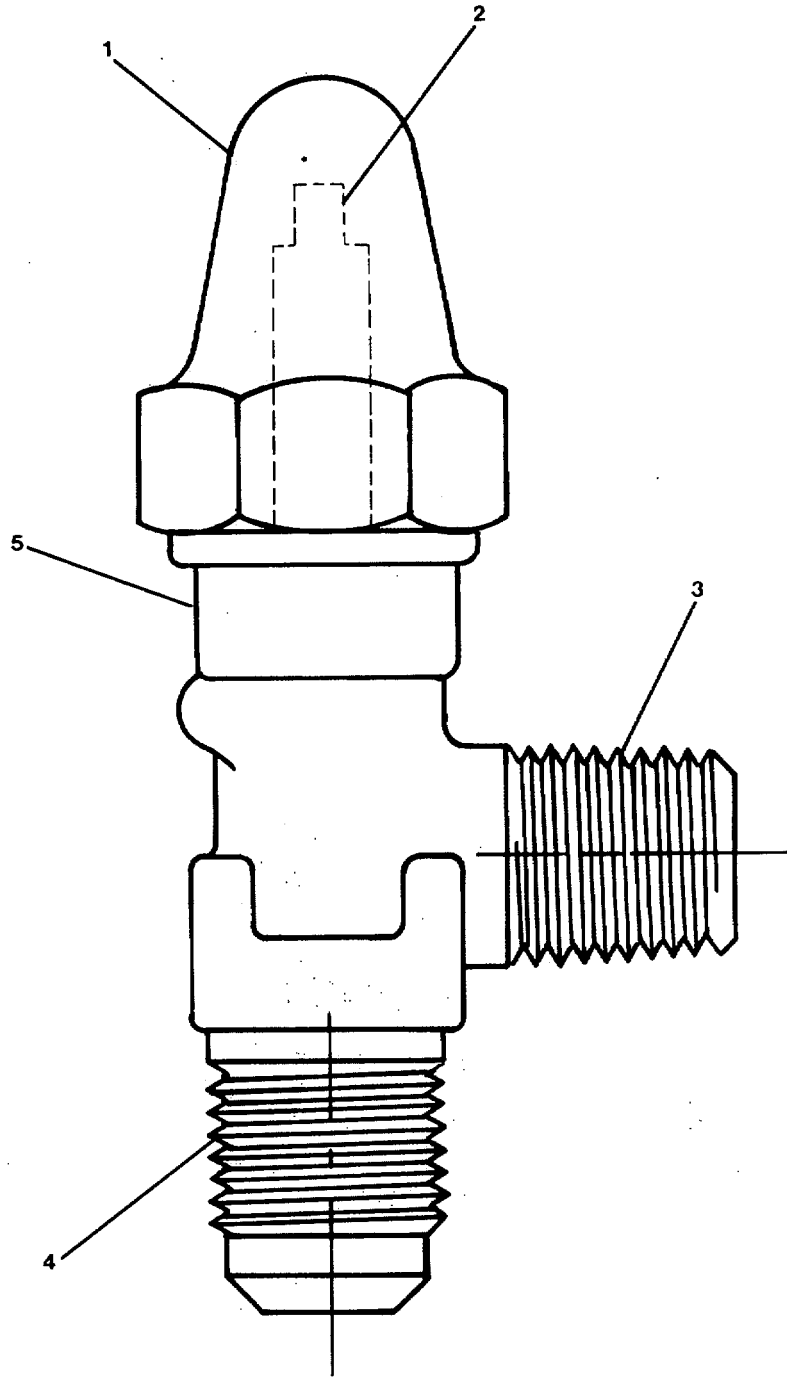

Figure 4-9. Angle Valve.
- (2) Replace ball valves.
- (a) Position new refrigeration ball valve (1) or (5) in refrigerant line.
- (b) Braze new ball valve (1) at connections (3) and (4).
- (c) Braze new ball valve (5) at connections (8) and (9).--
- (3) Make sure all ball valves are in OPEN position.
- (a) Turn visual indicator stem (2) on ball valve (1) to the OPEN position.
- (b) The seal cap (7) must be removed from ball valve (5) for access to valve stem (6). Remove cap and turn valve stem to OPEN position. Install seal cap (7).
- (4) Open service valves and receiver outlet valve to allow refrigerant back into the system.
- (5) Restore electrical power and run air conditioner to check for proper operation. Check refrigerant sight glass and add R-22 refrigerant as required (paragraph 4-9).
- (6) Remove "Out of Service" tag from circuit.
- f. Replace angle valve (5, FIGURE 4-9) as follows: